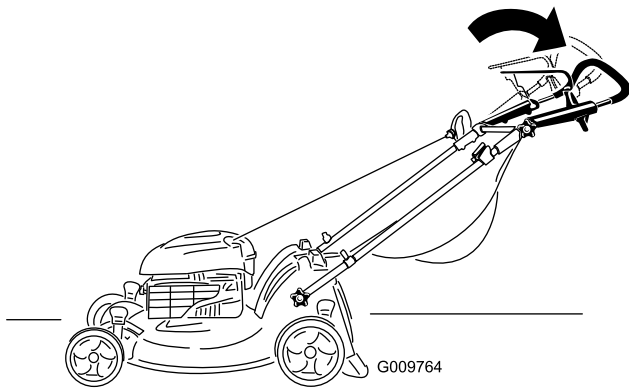

Figure 13
- Move the upper handle to the desired position (Figure 13).